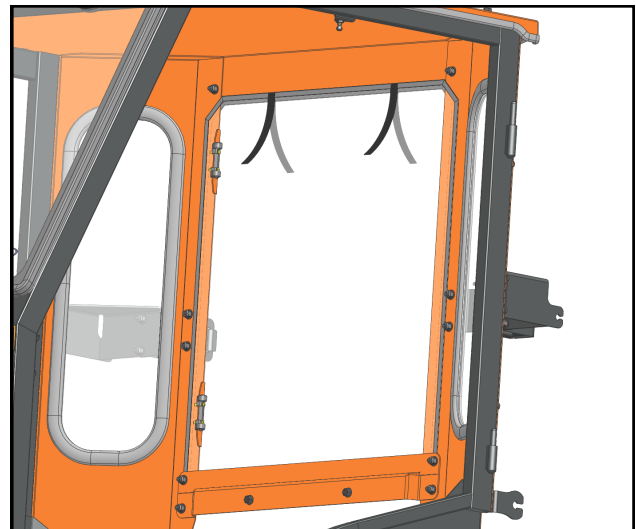

Fig. 9.4 (Upper Rear Curtain)
- 9.4** Pre-install the supplied Velcro hook to the sewn-in Velcro loop on the upper three sides of the upper rear curtain. Leave the release tape on until the filler is in place. See fig. 9.4.